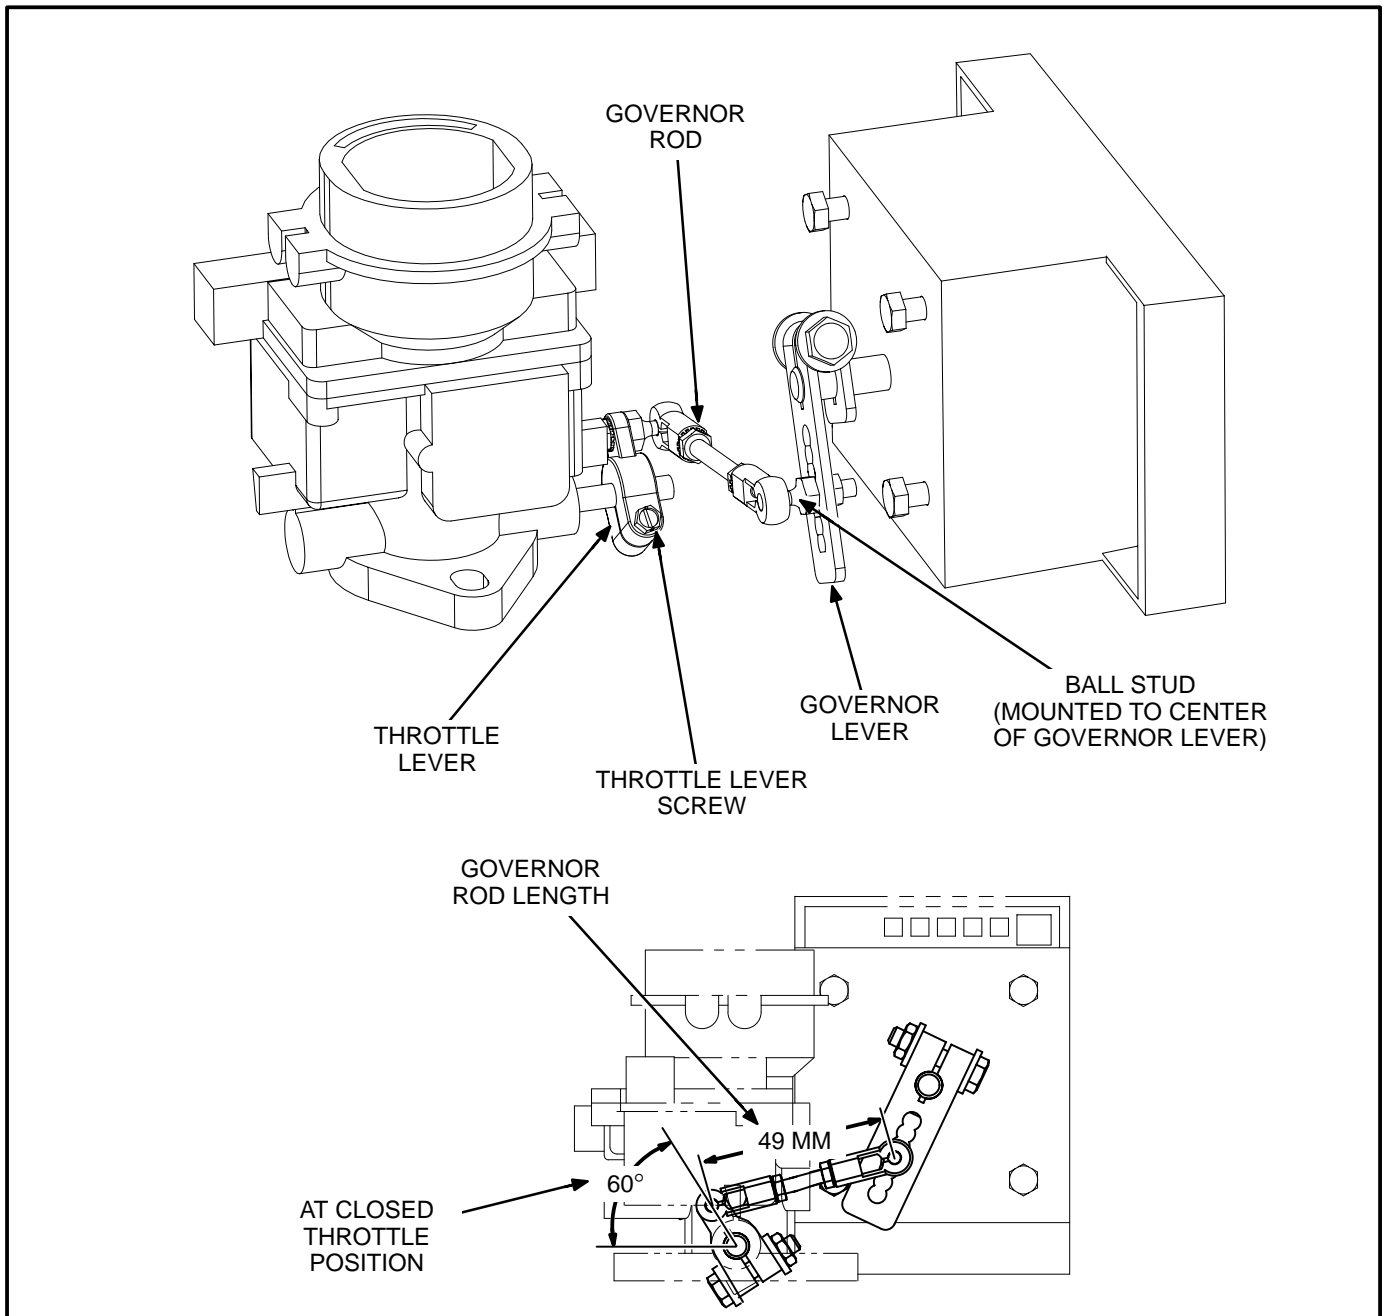

FIGURE 29. GOVERNOR LINKAGE
Figure 29 illustrates the governor linkage. Make sure that the governor controller is securely mounted to the engine bracket. To adjust the linkage:
2. While holding the throttle lever against the idle speed stop, verify that the throttle lever is at a 60 degree angle as shown in Figure 29. Loosen the throttle lever screw, if necessary, to adjust throttle lever.
3. Adjust the length of the governor linkage to the approximate length indicated in Figure 29.